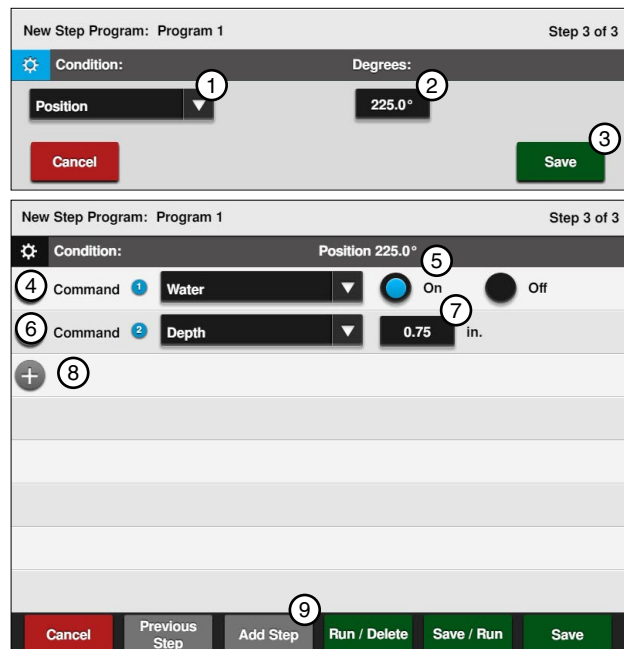

Figure 106-2 1. Position Condition 2. Degrees 3. Save 4. Water Command 5. Water ON 6. Depth Command 7. Inches 8. Add Command 9. Add Step
8. Program the position condition for this step. Refer to Figure 106-2.